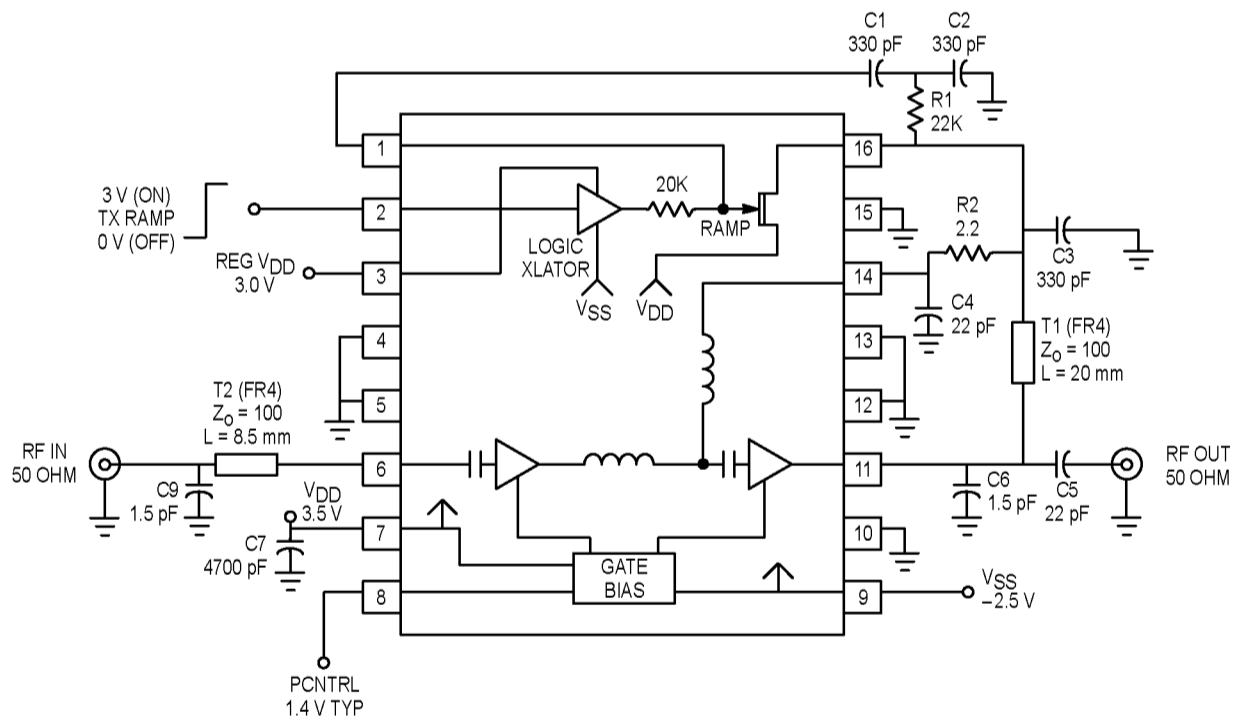

Figure 2. Applications Circuit Details for DECT using Internal Logic Translator
**DECT Application with Internal Logic Translator** (See Figure 2.  $V_{DD} = 3.5\text{ V}$ ,  $REG\ V_{DD} = 3.0\text{ V}$ ,  $T_A = 25^\circ\text{C}$ ,  $V_{SS} = -2.5\text{ V}$ ,  $TX\ RAMP = 3.0\text{ V}$ ,  $PCNTRL$  set for Quiescent  $I_{DD} = 120\text{ mA}$ ,  $P_{IN} = -3.0\text{ dBm @ } 1.9\text{ GHz}$  unless otherwise stated.)
As can be seen in Figures 2 and 3, the off-chip matching is straight forward. At frequencies near 1.9 GHz, the input requires 4.7 nH in series and 1.5 pF in shunt. The 4.7 nH series inductance may be implemented with a high-impedance transmission line as shown. The output, being close to 25  $\Omega$ , requires only a shunt 1.5 pF capacitor. Drain voltage for stage 1 is supplied through pin 14 and for stage 2 through pin 11, the RF output. Pin 8, PCNTRL is used to set the quiescent bias point for both stages. While nominal  $I_{DDQ}$  is 120 mA, it can be set as high as 180 mA for better linearity or lower for better efficiency. 120 mA is a good compromise for DECT and PHS. DECT, which employs GMSK constant envelope modulation can use RF amplifiers close to or in saturation without experiencing spectral regrowth of the signal. PHS, on the other hand, employs  $\pi/4$  DQPSK modulation which has some residual AM associated with the encoding. With AM present, RF amplifiers must be backed off from saturation so as not to regrow the filtered sidebands. The MRFIC1806 has plenty of backoff capability for PHS where the MRFIC1807 PA/switch must only produce about +21 dBm. With the 8.0 dB gain of the MRFIC1807, the MRFIC1806 need only produce +13 dBm output so the bias point can be reduced below the 120 mA suggested for DECT.
The on-chip ramp circuit can be used to control the amplifier attack and release time for DECT applications through the use of a few external components as shown in Figure 2. This ramping is required to control the burst signal rise and fall time to avoid adjacent channel interference. At the same time, system specifications require the transmitter to reach full power in a minimum time. For DECT, it has been shown that a rise time of not greater than 2 microseconds will produce acceptable adjacent channel performance. The system requires full power in not greater than 10 microseconds. A good compromise, and the timing implemented in Figure 2, is 7 microseconds.